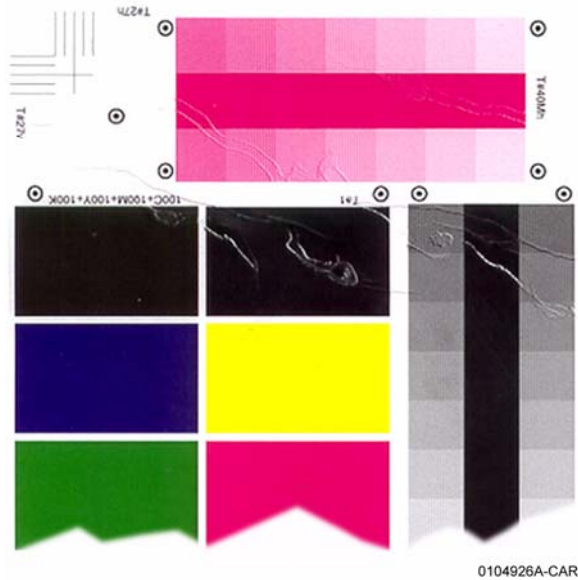

Figure 1 Wrinkled Image Defect Sample
1. Check customer print to verify distinctive “worm track” patterns in the images in Figure 1.